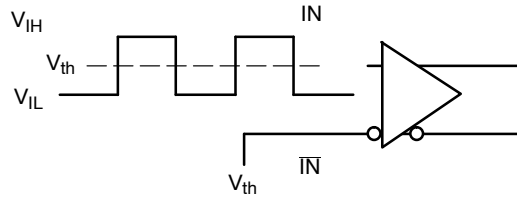

Figure 7. Differential Input Driven Single-Ended
**DIFFERENTIAL CLOCK INPUTS DRIVEN SINGLE-ENDED** (Figures 7 and 8) (Note 7)